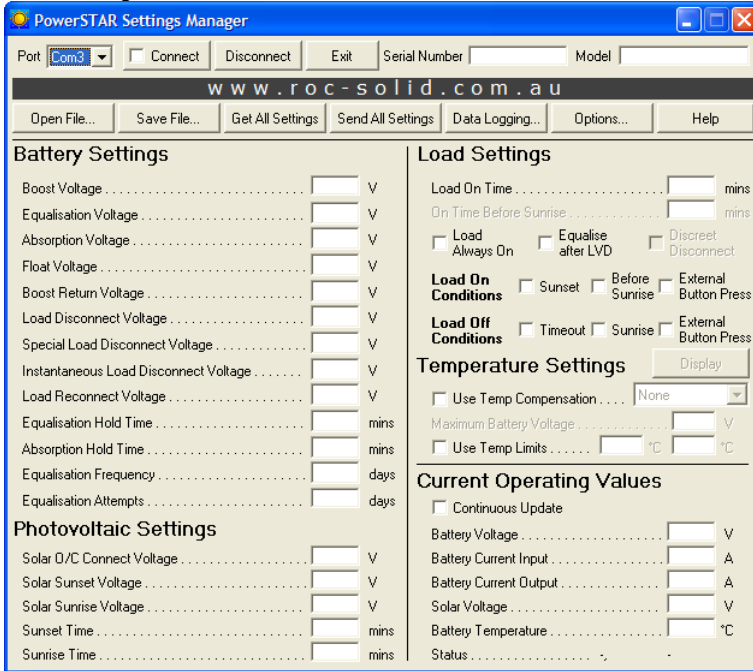

Figure 4
- The PowerSTAR settings manager setup file is labelled *PowerSTARsetup.exe*. Run this file to install the program. Once installed, run the PowerSTAR settings manager, the window in Figure 4 should be seen.